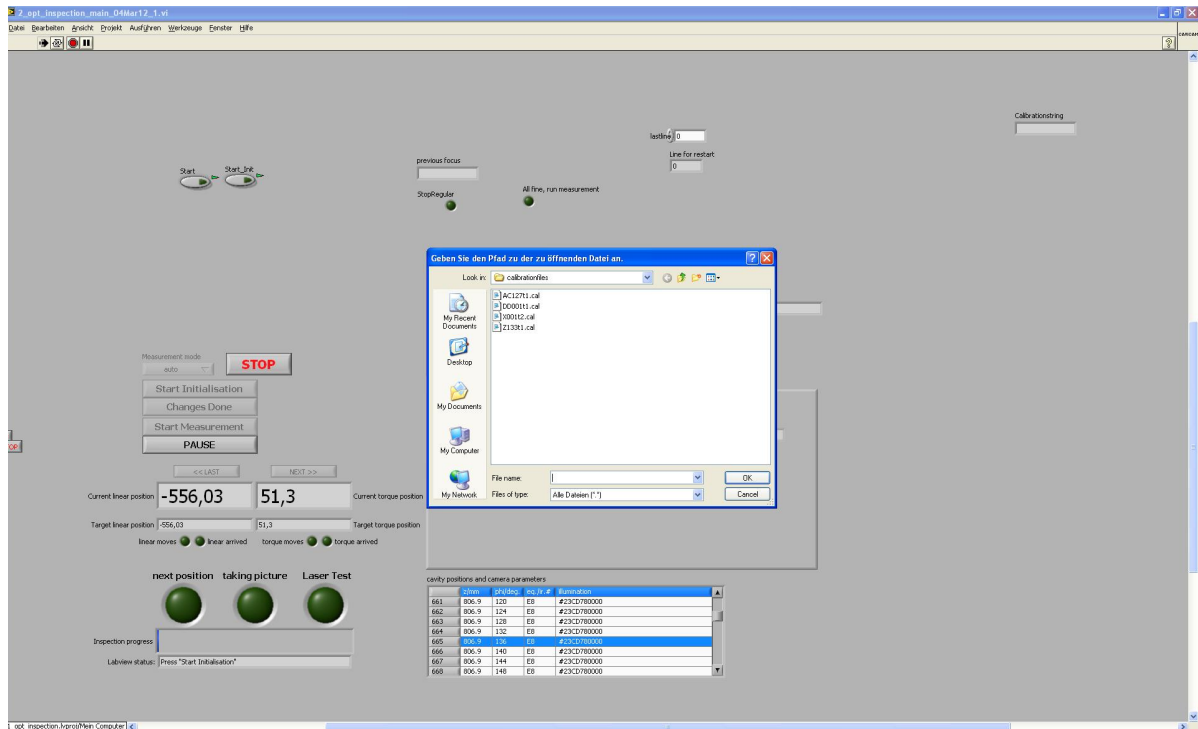

Figure 7: Screen shot of motor GUI – calibration file definition
- c) a pop-up menu is asking for the calibration file, the path has to be given as shown in figure 7